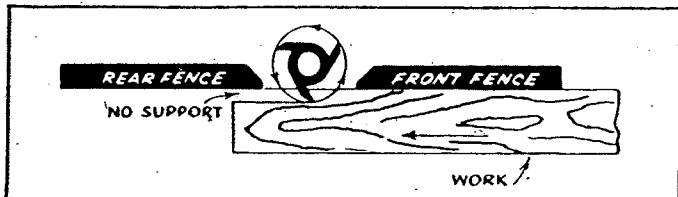
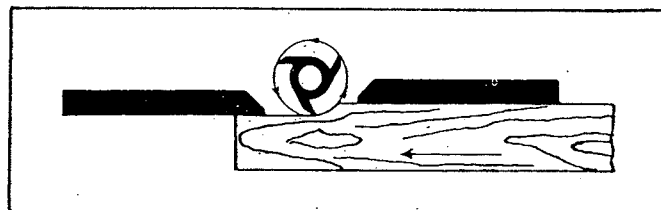

Fig. 25
Fig. 26
2. When the shaping operation removes the entire edge of the work, e.g., in jointing or making a full bead, the shaped edge will not be supported by the rear fence when both fences are in line, as shown in Fig. 25. In this case, the work should be advanced to the position shown in Fig. 26, and stopped.
3. The rear fence should then be advanced to contact the work, as shown in Fig. 26. The rear fence will then be in line with the cutting circle.